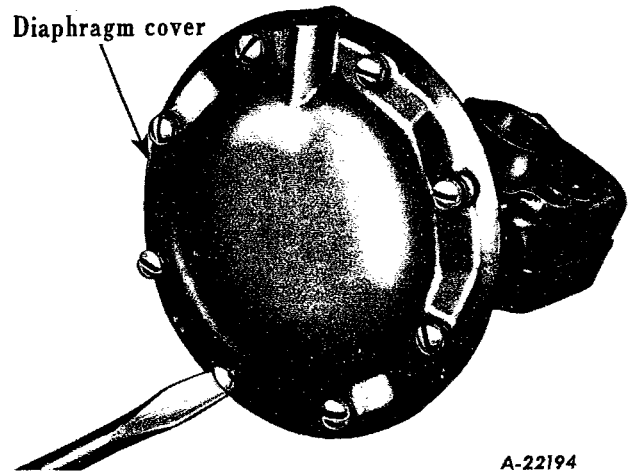

Fig. 64
- Fig. 64 - Remove the eight governor diaphragm cover retaining screws.